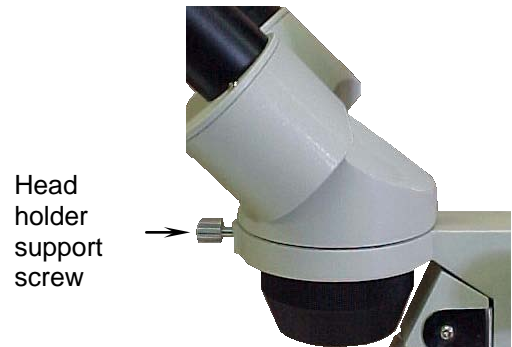

Fig. 1
1. Loosen the head holder support screw (Fig. 1) and turn the head 180°.
- b. Remove the screws from the bottom plate of the microscope base , and move away the bottom plate carefully, (as referred to Fig.1)
- f. Replace back the bottom plate of the microscope and tighten it with the screws as shown in Fig. 1.